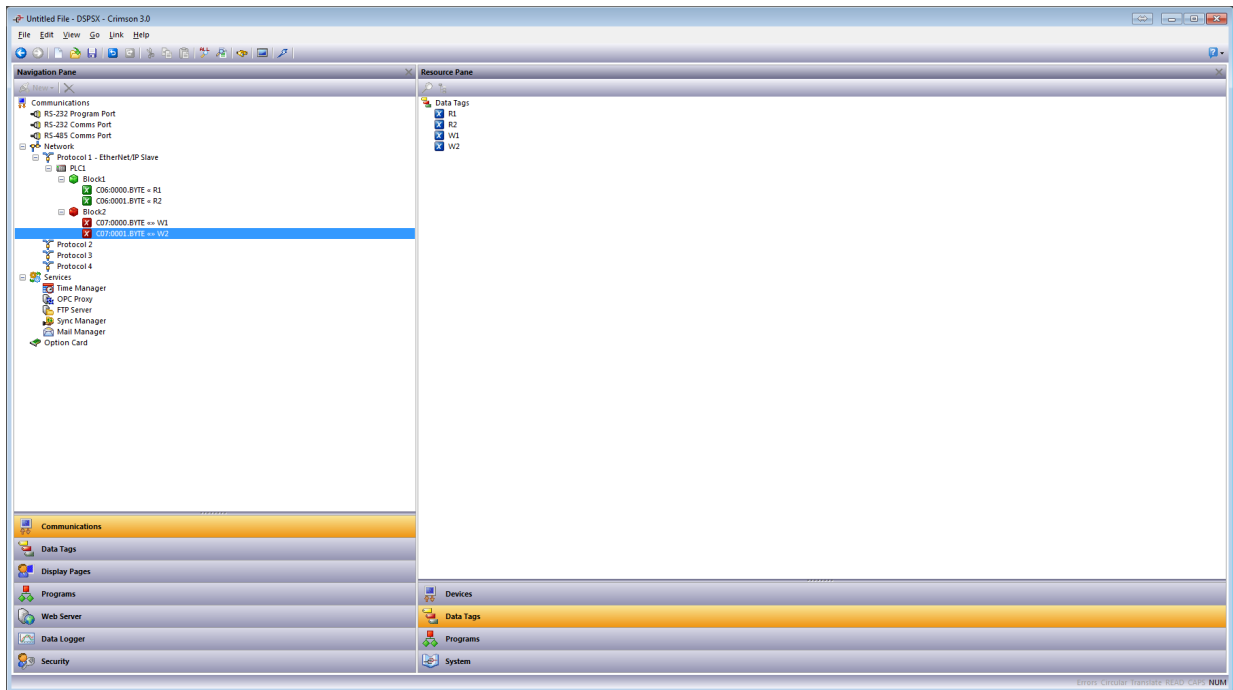

Figure 13.
9. Drag the remaining tags to their associated addresses. When complete, the Communications section will be updated with the new tags, as shown in Figure 13.